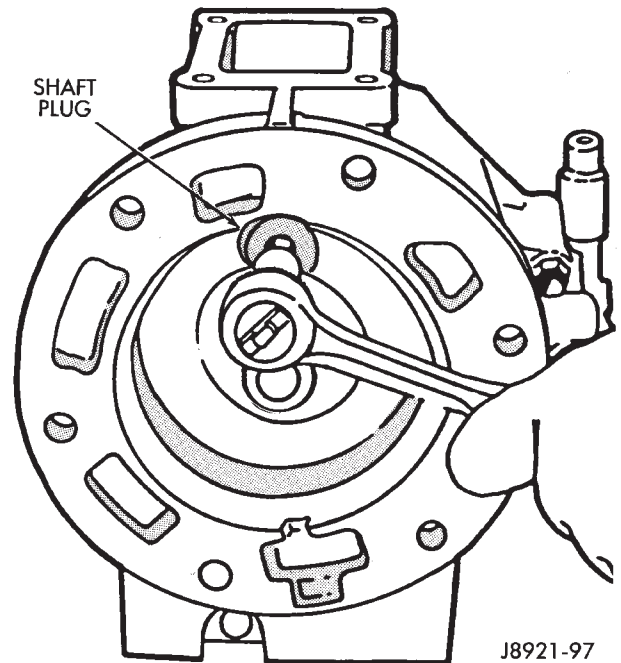

Fig. 45 Shifter Arm Shaft Plug Installation
(14) Install and tighten shifter arm shaft plug to 18 N·m (13 ft. lbs.) torque (Fig. 45).